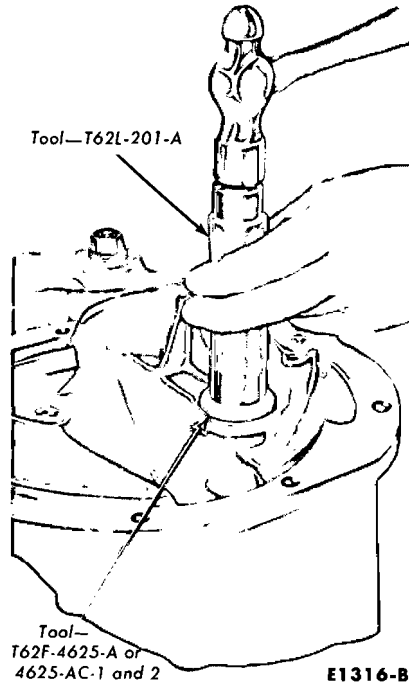

FIG. 40—Removing Pilot Bearing
1. Remove the pilot bearing as shown in Fig. 40. Drive out the pilot bearing and the bearing retainer together. On vehicles with high performance engines, use handle adapter T53L-200A with tool 757L-4625-A or 4625-K.